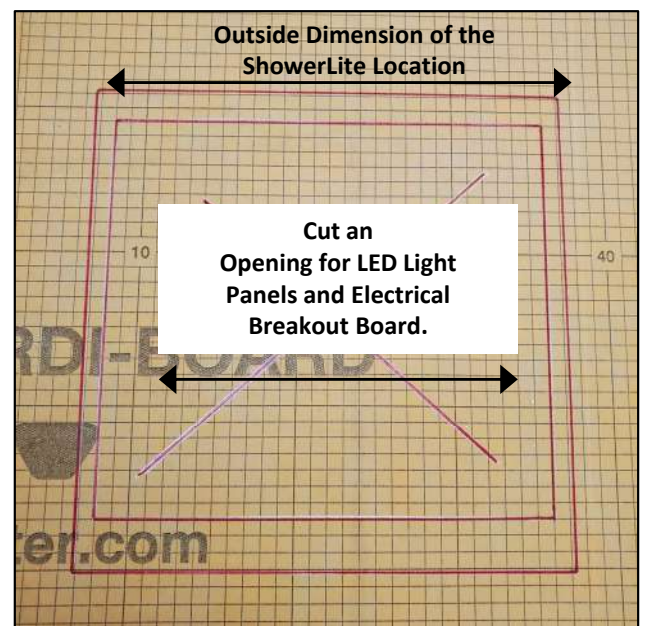

Figure 1. Preparing the wall board (front view).
4. If needed, remove the marked area of wallboard to allow the mirror to install flush with the tile (see Figure 1).